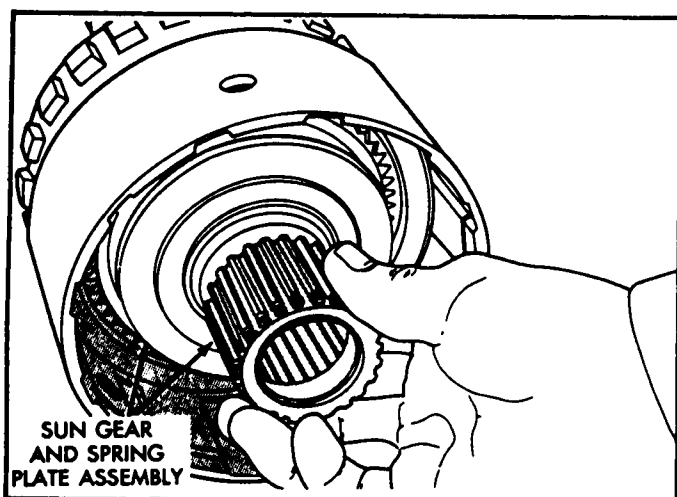

Figure 12
16. Install completed sun gear assembly in overdrive carrier until fully seated, as shown in Figure 12.